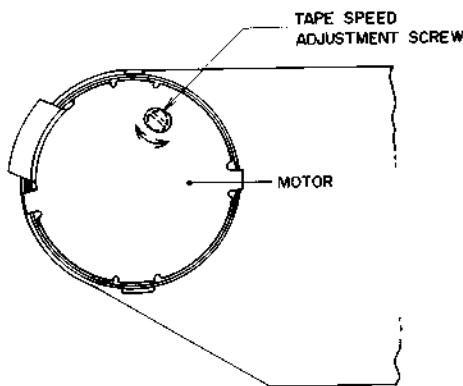

Fig. 24 Tape Speed Adjustment
2. TAPE SPEED ADJUSTMENT (Refer to Fig. 24)